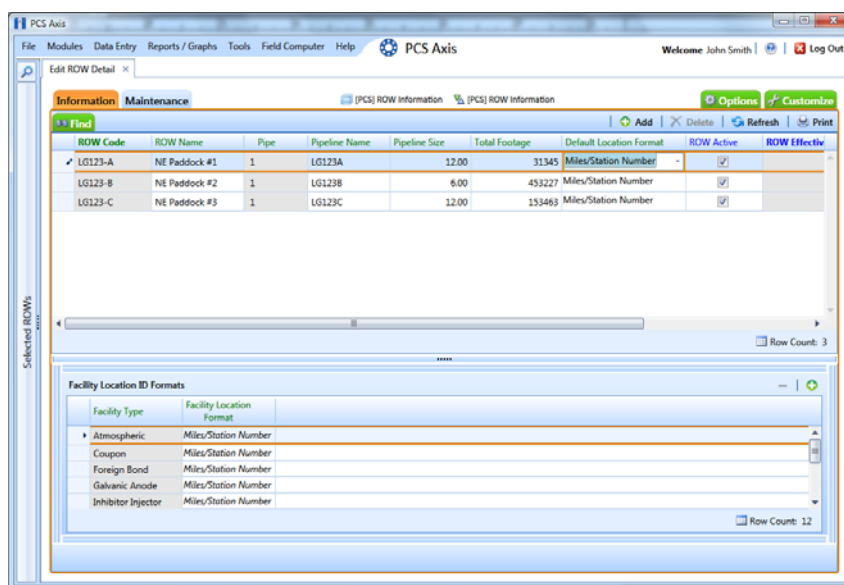

Figure 3-11. Edit ROW Detail
- 2 Click **Data Entry > Edit ROW Details** to open the *Edit ROW Detail* window (Figure 3-11).
- 3 If you want to collapse the *Selected ROWs* panel to view more of the *Edit ROW Detail* grid, click **Selected ROWs**. To expand the panel, click **Selected ROWs** again (Figure 3-11, page 100).